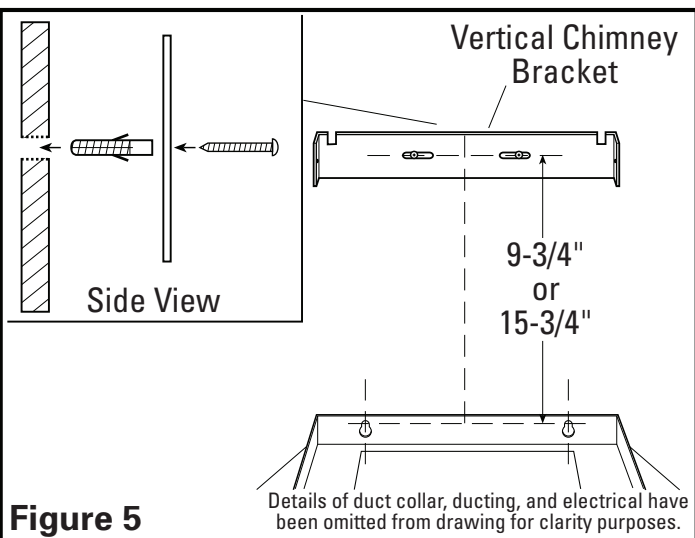

Figure 5
- If installing onto drywall, drill holes into wall using a 3/16" drill bit. Install wall anchors into the drilled holes (one for each hole). Secure bracket into place with (2) provided #6 x 1" screws. If installing into other material (brick, cement, plaster, etc.) choose an appropriate fastener capable of supporting the weight of the chimney (**Figure 5**).